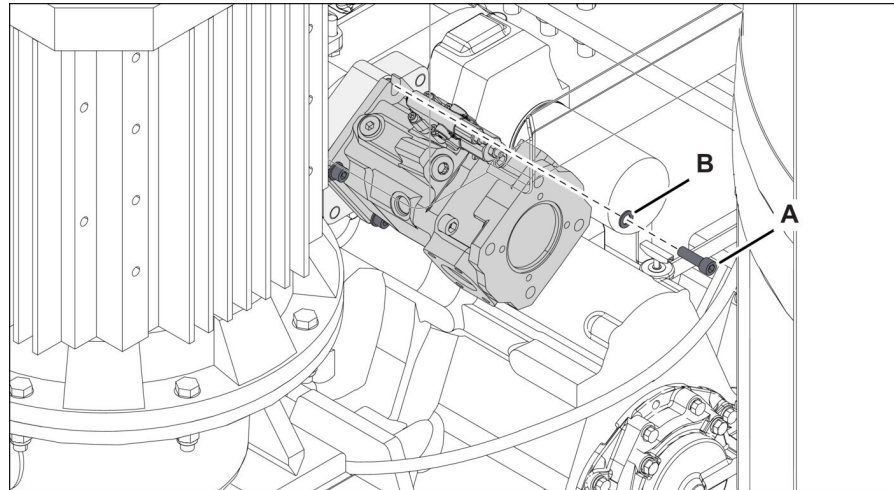

Figure 12
2. Remove the screws (Figure 12, item A) and the washers (item B) that attach the steering positioning pump to the transmission. Discard the hardware.